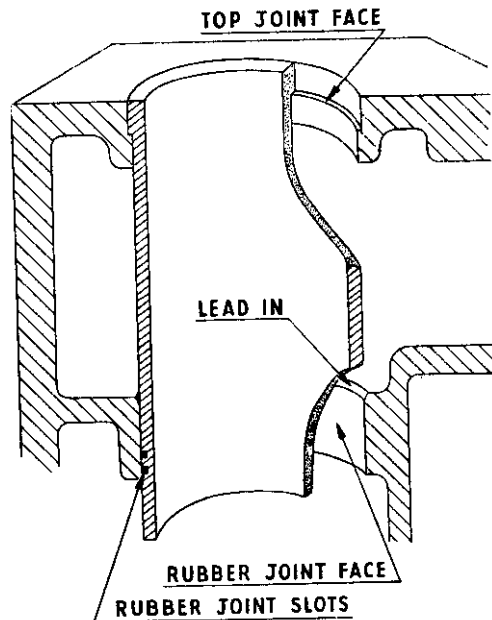

Fig. 7
i. The housing should be thoroughly cleaned, both at the top where the shoulder of the liner will rest and at the bottom where the rubber joint rings will seal the water jacket (See Fig. 7)